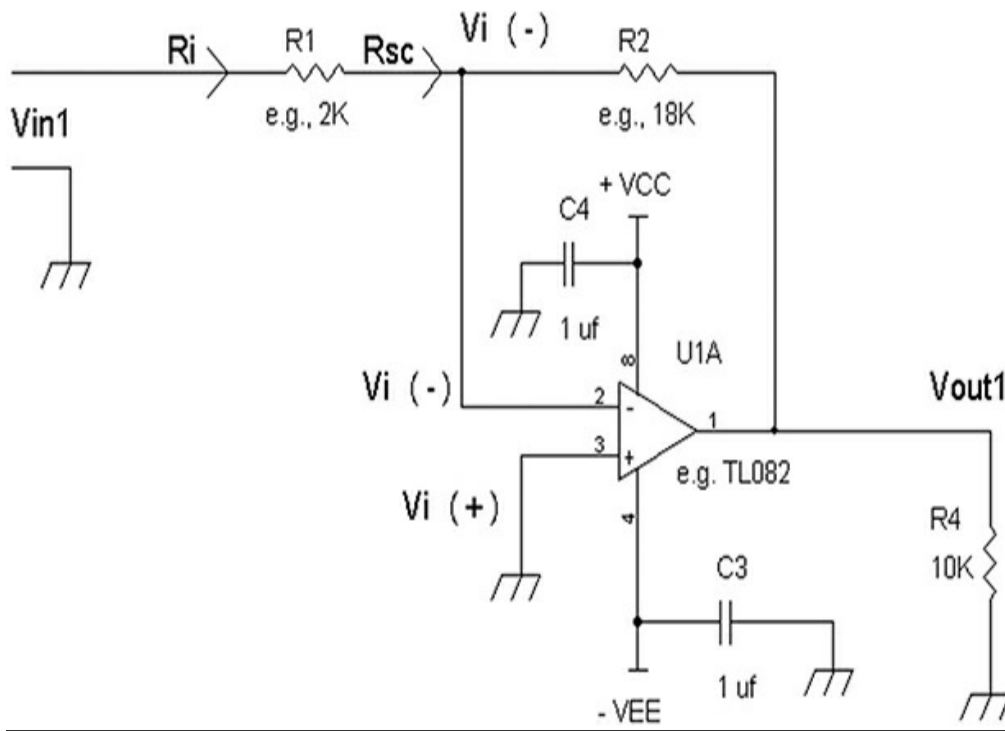

FIGURE 9.23 An inverting gain op amp circuit with plus and minus power supplies.
We now turn to inverting gain op amp circuits where they produce an inverted waveform at the output when compared to the input signal. See Figure 9-23.
input's voltage to be the same as the (+) input's voltage. For a simple example, let $R_1 = R_2$ in Figure 9-23. If $V_{in1} = +1$ volt DC, what voltage must V_{out1} be such that at the junction of R_1 and R_2 that is connected to the (–) input matches the voltage at the (+) input terminal? We see that the (+) input terminal is grounded or at 0 volts. R_1 and R_2 form a voltage summing circuit for V_{in1} and V_{out1} . If the resistors R_1 and R_2 are equal in value (e.g., $R_1 = R_2 = 2\text{K}\Omega$) and we have + 1 volt DC into R_1 via V_{in1} , it makes sense that the output voltage at V_{out1} should be – 1 volt DC. This way at the junction of R_1 and R_2 we will get 0 volts. The output terminal (e.g., pin 1) is adjusting its voltage such that when summed via R_2 , the voltage at pin 2, the (–) input terminal, is zero volts. This output voltage adjustment via R_2 provides the “virtual” short circuit voltage across the (–) input and (+) input terminals, with a voltage applied to input resistor R_1 .
In terms of the output resistance at V_{out1} , the op amp with the negative feedback resistor R_2 has an output resistance close to zero ohms. The amplifier in Figure 9-23 amplifies DC and AC voltages at V_{in1} . For example, if $V_{in1} = 1.0\text{ v DC}$, then $V_{out1} = -(R_2/R_1) + 1\text{ volt DC}$. For example, if $R_2 = 180\text{K}\Omega$ and $R_1 = 20\text{K}\Omega$, the output voltage will be: $V_{out1} = -(180\text{K}/20\text{K}) \times 1\text{ volt DC}$ or $V_{out} = -9\text{ volts DC}$. Note that the supply voltage should be at least a few volts higher than 9 volts, such as $\pm 12\text{-volt}$ supplies for $+V_{CC}$ and $-V_{EE}$.
For an inverting gain amplifier the AC gain $G = A_v = -R_2/R_1$ and the AC input resistance $R_i = R_1$, with R_1 and R_2 shown in Figures 9-23, 9-24, and 9-26. In all cases
2. Make sure there is at least a $\geq 0.1\ \mu\text{f}$ decoupling capacitor wired or soldered closely to each power pin (e.g., plus supply pin 8 and negative supply pin 4 of an LM1458) and ground. For example, see the $1\ \mu\text{f}$ power supply decoupling capacitors C4 and C3 in Figure 9-23. For a single supply circuit you need only one decoupling capacitor since the other power pin is usually grounded. Without power supply decoupling capacitors, the op amps can oscillate or give noisy output signals on their own.